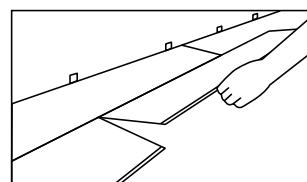
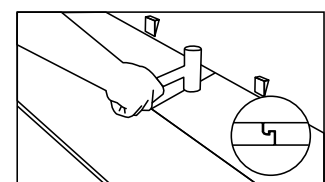

Fig. 5
Fig. 6
3. Angle the long edge of the next board in the second row to lock into the first row (fig. 5) while positioning the short end of the board over the groove from the previous board. Lock and fold, then tap into place using a rubber mallet. (fig. 6)